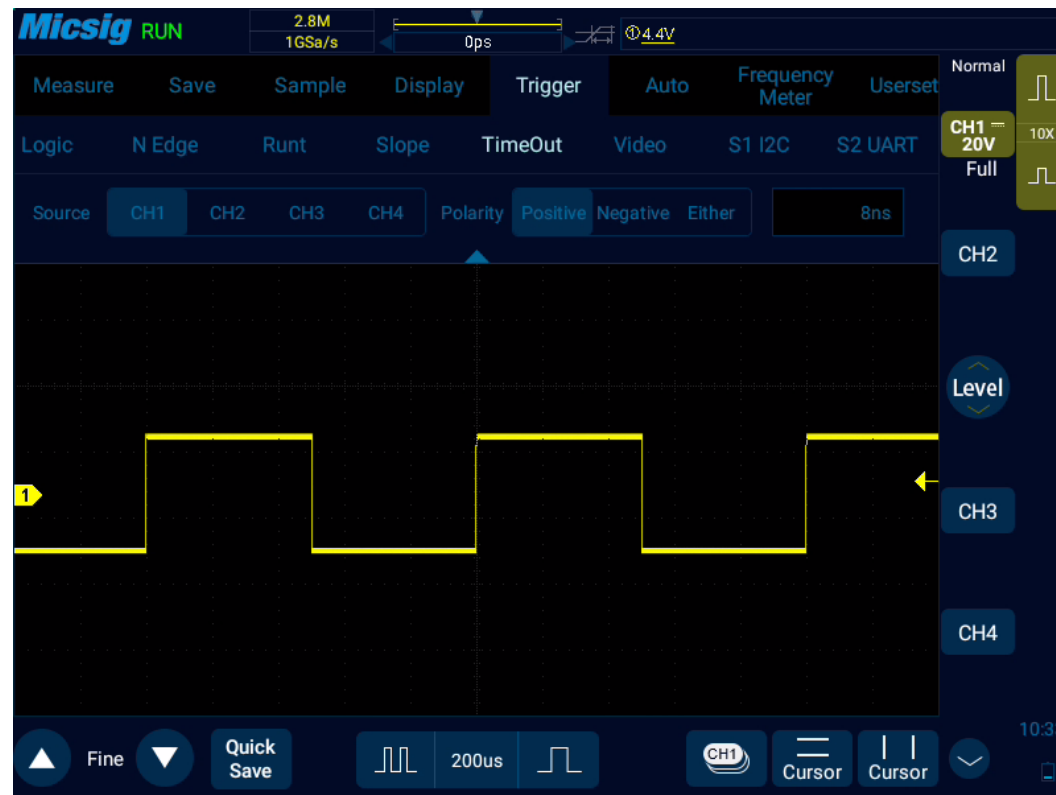

Figure 6-28 Time-out Trigger
- 1) Tap “Trigger” on the main menu to open the trigger menu, select timeout trigger in the trigger type, and set the timeout trigger as follows, as shown in Figure 6-28: